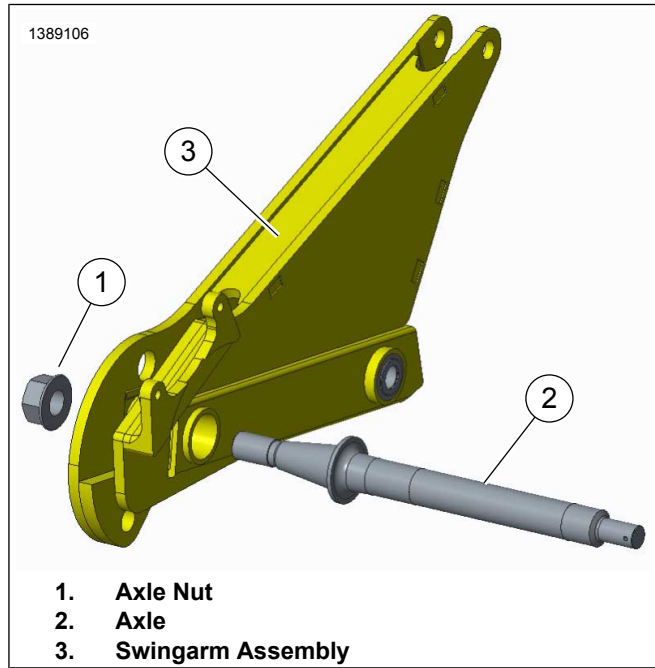

Figure 2-26. Assembly Of Axle
6. See Figure 2-26. Insert axle (2) into the tapered hole in the swingarm assembly (3) and secure with nut (1).
7. Tighten axle nut (1).